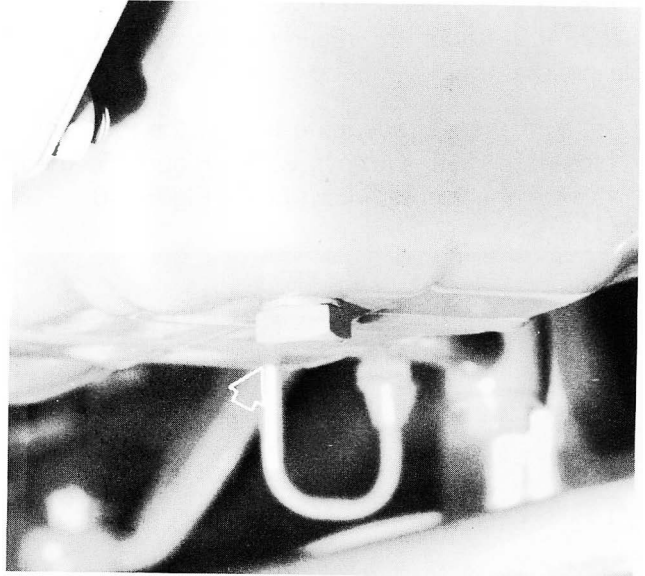

Figure 39 — Engine Oil Drain Plug
1. With the engine off, but at normal operating temperature, drain and discard the engine oil by removing the drain plug, Figure 39. Reinstall the plug after the oil has drained and discard the oil.